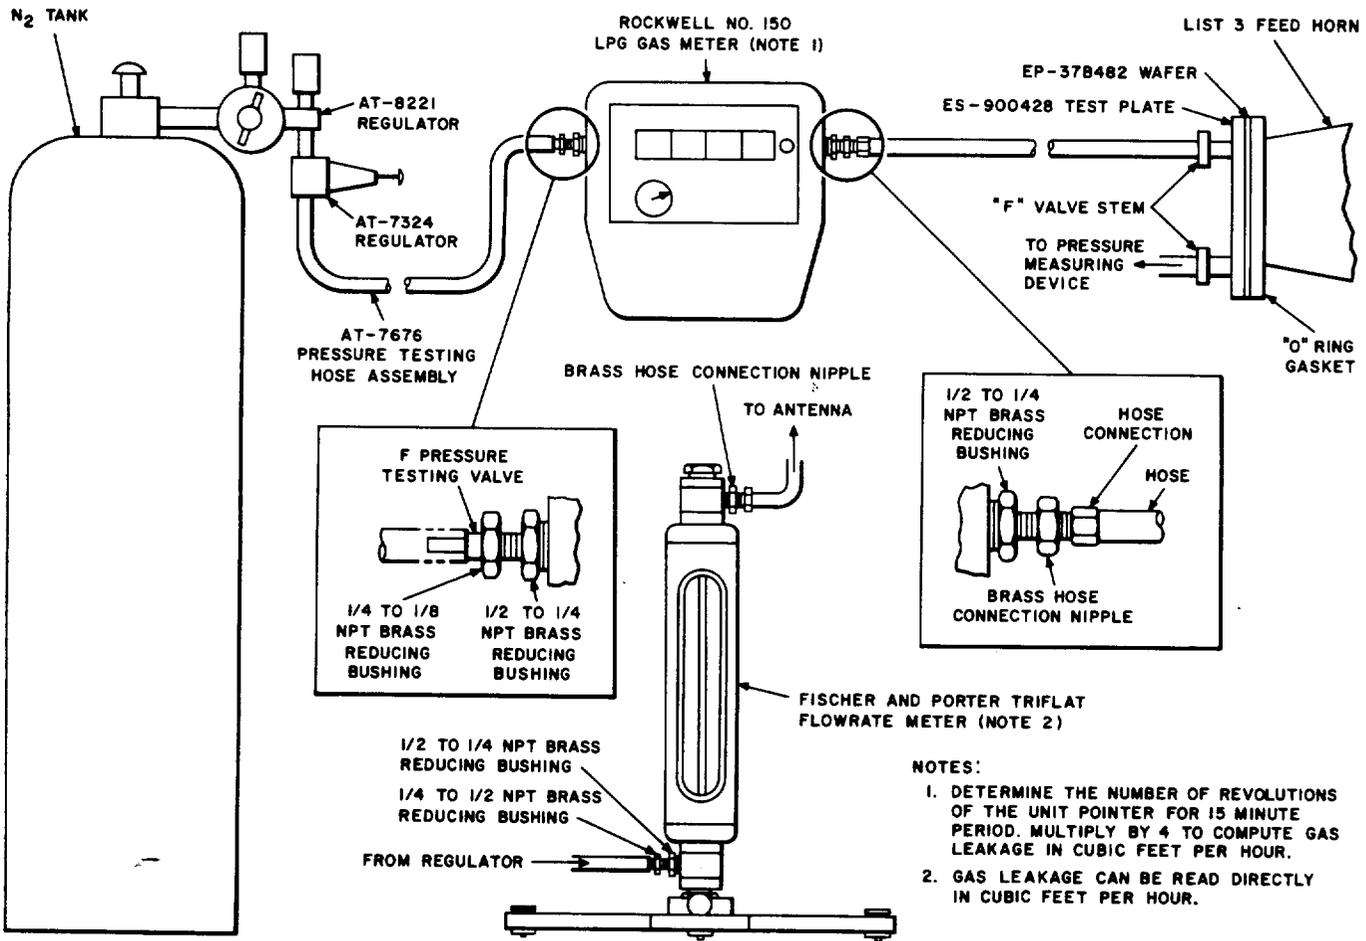

Fig. 4—Gas Leakage Test
**3.02** Figure 4 shows the test setup for supplying and metering dry nitrogen to the antenna.
- (1) With the B flow indicator (or the water manometer) in the vertical position, attach the hose chuck to the pressure-measuring valve before charging is started. Feed the flowrator (or gas meter) from the nitrogen cylinder through the regulators. Adjust the regulator slowly to maximum output to avoid damaging the flowrator as the float rises to the top of the tube. This pressure is about 5 psi as measured on the outlet valve of the AT-7324 regulator in accordance with Fig. 4. Watch the fluid level in the B flow indicator (or water manometer), and as it approaches 0.2 psi (5.5 inches of water), reduce the regulator feed pressure. Adjust the regulator further, as required, until 0.2 psi (5.5 inches of water) is maintained, and then record the gas usage shown by the flowrator.
- (2) If an equalized pressure of 0.2 psi (5.5 inches of water) can be obtained, the antenna leakage is determined by reading the gas meter over a measured period of time; or if a flowrator is used in place of the gas meter, the leakage is determined by direct reading of the flowrator. An approximation of the leakage at 0.2 psi (5.5 inches of water) can be obtained by gas meter or flowrator readings at lesser pressure, if it is impractical to bring the pressure up to 0.2 psi (5.5 inches of water), by using the following